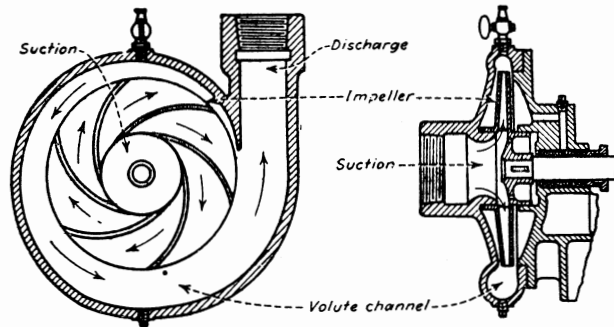

Fig. 9—These cross-sections show the basic parts of a centrifugal pump.
**Centrifugal Pump: (Shallow Well)** Figure 9 illustrates a simple side-suction centrifugal pump and its method of operation. The impeller rotates in a case or housing and discharges water by direct centrifugal force. This type of pump has a suction limit varying from 15 to 25 feet, depending on the design. It is most effective when delivering large quantities of water under low pressure. Its capacity decreases rapidly as discharge pressure increases or as suction lift increases. This type of pump is commonly used in combination with jet or ejector type pumps.